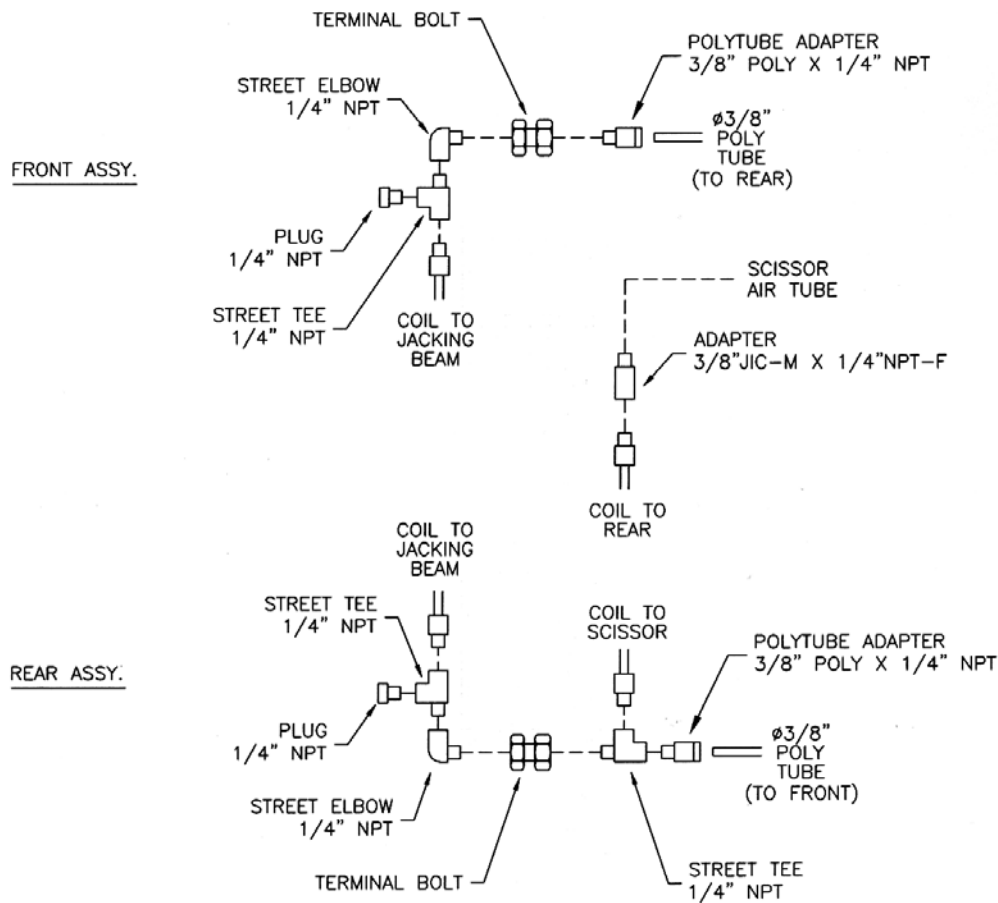

Figure 6 – Air Line Connections
3. Assemble the fittings to the front of the right side deck as shown in Figure 6. Connect the 3/8" polytube from the inside of the deck to the fitting assembly.
4. Assemble the fittings to the rear of the right side deck as shown in Figure 6. Connect the 3/8" polytube from the inside of the deck to the fitting assembly.
5. Remove one recoil hose from the accessory box and connect it to the rear fitting assembly as shown in Figure 6. Run the recoil hose under the deck and connect the opposite end to the air line on the scissors using the 3/8" JIC-M x 1/4" NPT-F adapter from the hardware kit.